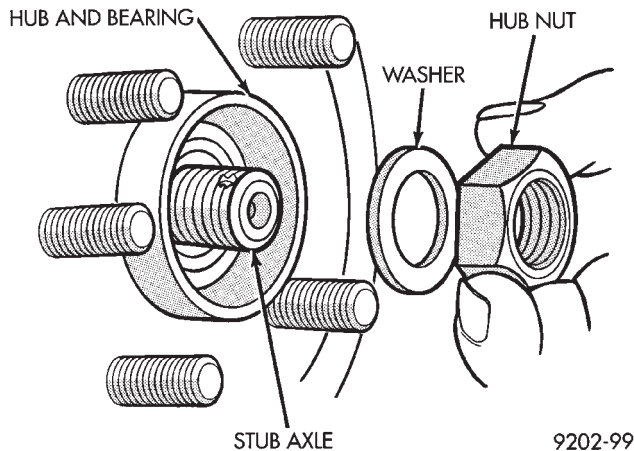

Fig. 75 Front Stub Axle Nut And Washer
- (12) Clean all foreign matter from the threads of the outer C/V joint stub axle. Install the washer and hub nut (Fig. 75) onto the stub axle and tighten nut.